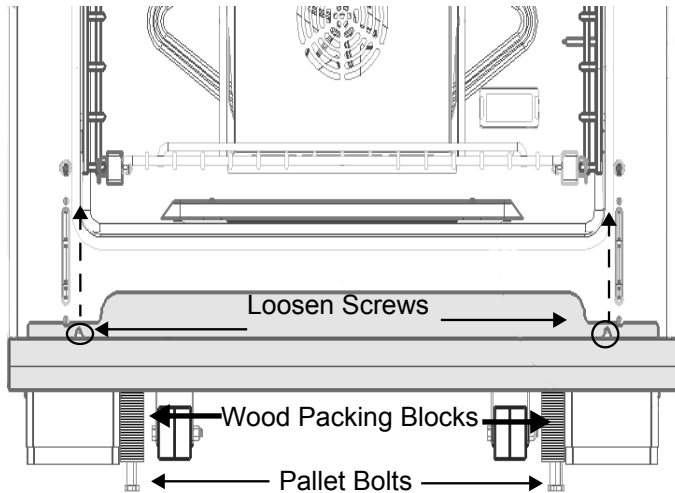

Figure 5: Door Trim, Packing Blocks, & Pallet Bolts
- All ranges are held to the pallet by (4) bolts through a wood block center (see *Figure 5*). The two front pallet bolts are accessible only after removing the Door Trim located beneath the doors.